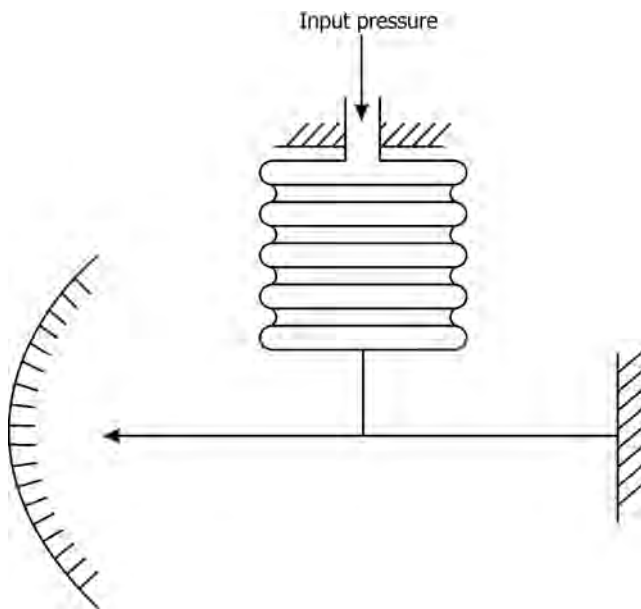

FIGURE 1.14 Basic metallic bellows.
- Figure 1.14 shows a basic metallic bellows pressure sensing element.